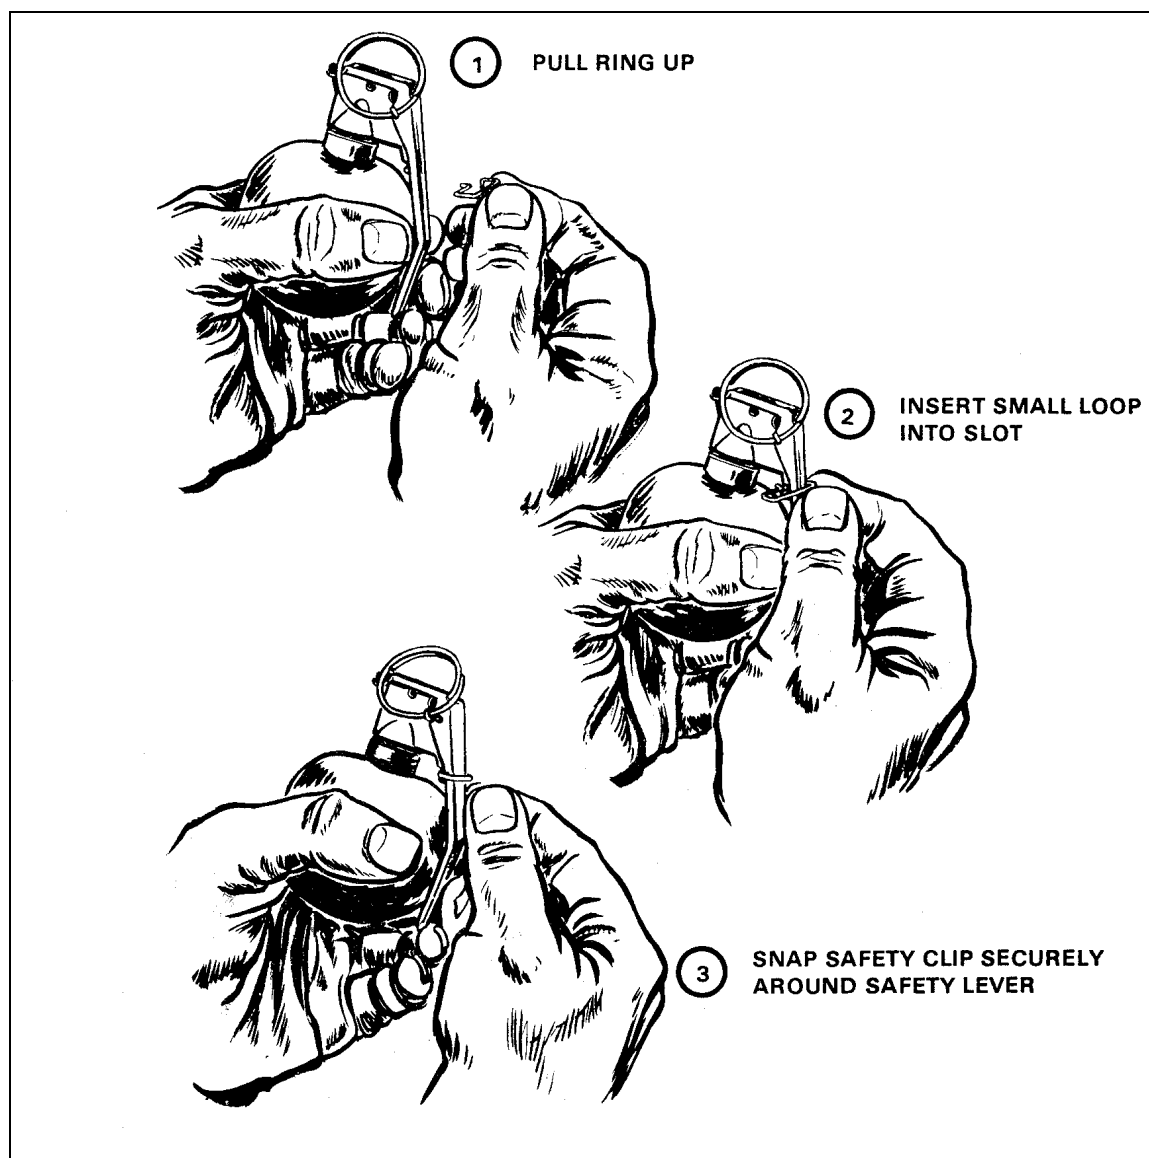

Figure 1-1. Safety clip insertion.
- a. **Insert the Safety Clip.** All hand grenades do not have safety clips (NSN 1330-00-183-5996). However, safety clips are available through Class V ammunition supply channels for some types of grenades. The safety clip is adaptable to the M26 and M67 series, the MK2, and the M69 practice grenade. The safety clip prevents the safety lever from springing loose even if the safety pin assembly is accidentally removed. The adjustment instructions are illustrated in Figure 1-1. The safety clip installation instructions are as follows:
- (1) Hold the fuzed grenade in the palm of the hand with the pull ring up.
- (2) Insert the small loop at the open end of the safety clip in the slot of the fuze body beneath the safety lever.
- (3) Press the clip across the safety lever until the closed end of the clip touches the safety lever and snaps securely into place around the safety lever.